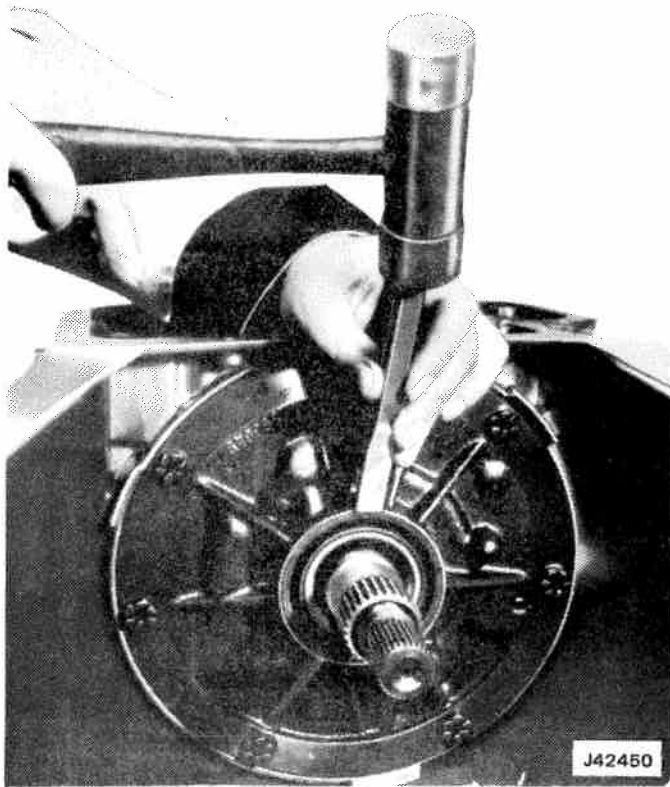
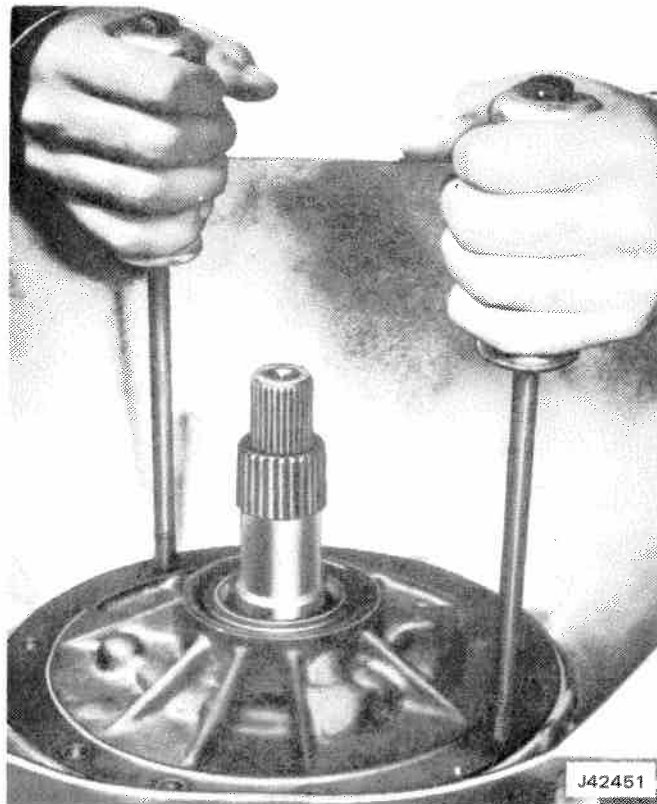

Fig. 7-20 Removing Front Seal
Fig. 7-21 Removing Oil Pump Assembly
- (1) If necessary to replace, pry front seal from oil pump (fig. 7-20).
- (2) Remove pump attaching bolts and bolt washers.
- (3) Install 3/8-16 inch threaded slide hammers into threaded holes in pump body at 5 and 10 o'clock positions.
- (4) Remove pump assembly from case (fig. 7-21).
- (5) Remove and discard pump-to-case seal ring and gasket from oil pump.